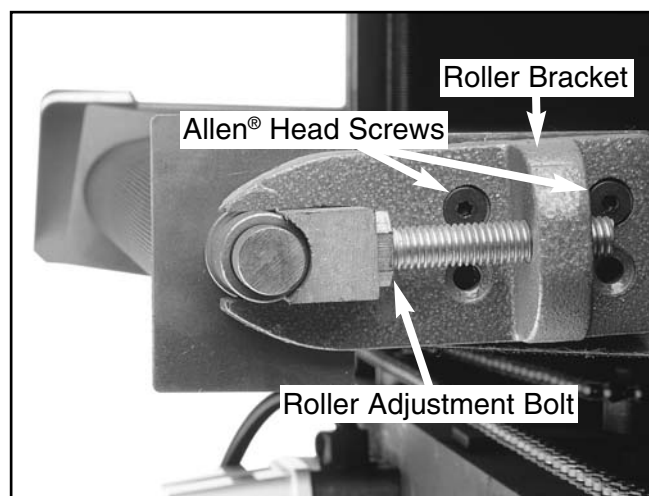

Figure 16. Location of conveyor adjustments.
1. If the conveyor belt is slipping, turn both **infeed** adjustment bolts counter-clockwise. **See Figure 16.**